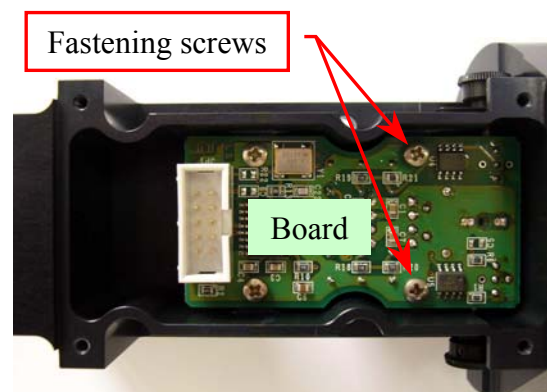

Fig. 71 – Fastening screws of the Reference Channel board
5. Unscrew the four fastening screws of the “Pre-Ampl./ADC Board” of the Reference Channel (**Fig. 71**) and take off - handling with care - the board from its housing on the Photometer.
7. Screw the four fastening screws of the “Pre-Ampl./ADC Board” of the Reference Channel in its housing (**Fig. 71**).